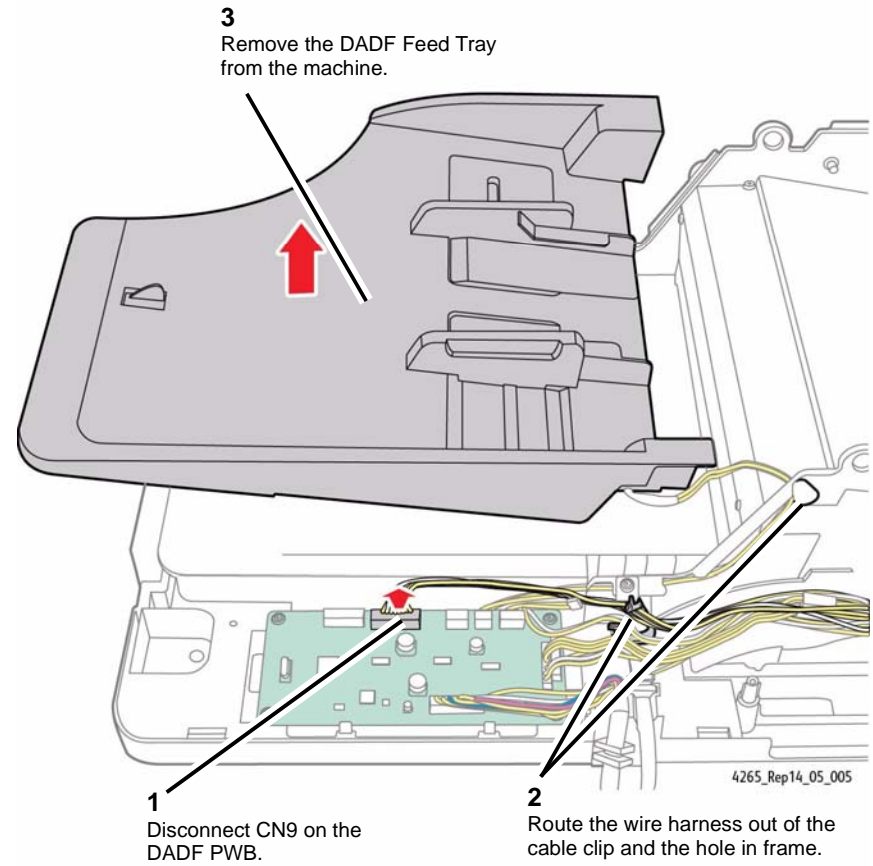

Figure 7 Removing the DADF Feed Tray
9. Remove the DADF Feed Tray (Figure 7).